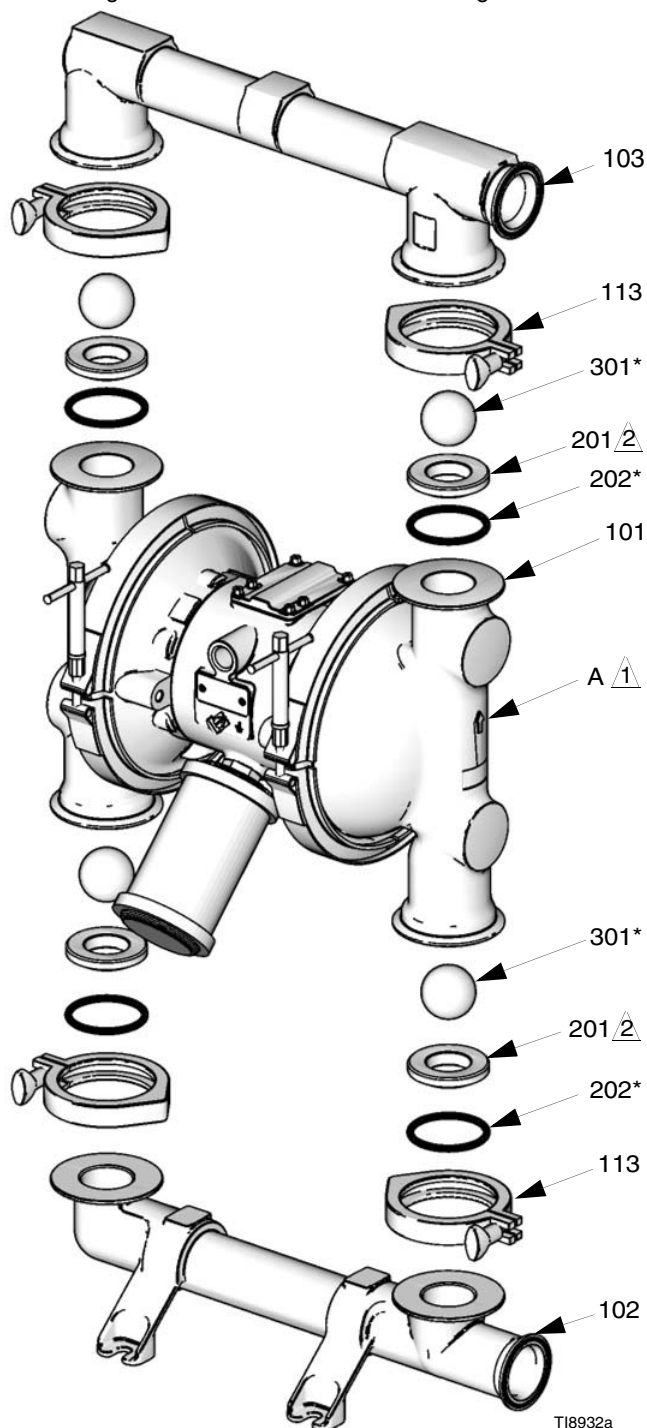

FIG. 9
- To ensure proper seating of the balls (301), always inspect the seats (201) when replacing the balls. Replace seats as necessary if seating surface shows evidence of wear. Also, replace the o-rings (202) as necessary. PTFE o-rings should be replaced every time manifolds are removed.
3. Remove the clamps (106) holding the outlet manifold (103) to the fluid covers (101). See FIG. 9.
4. Remove the o-rings (202), seats (201), and balls (301) from the manifold (103).
5. Turn the pump over and remove the inlet manifold (102). Remove the o-rings (202), seats (201), and balls (301) from the fluid covers (101).
2. Reassemble in the reverse order, following all notes in FIG. 9. Be sure the ball checks and manifolds are assembled **exactly** as shown. The arrows (A) on the fluid covers (101) **must** point toward the outlet manifold (103).
- 1 Arrow (A) must point toward outlet manifold (103)
- 2 Radiused seating surface must face the ball (301). Large chamfer on O.D. must face o-ring.